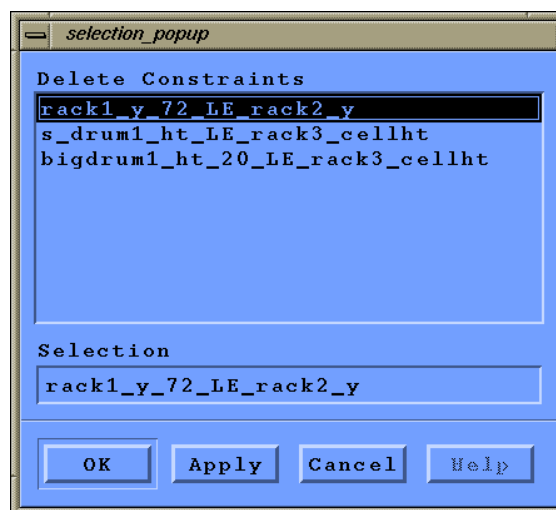

**Figure 13:** Subclass/Constraint Dialog Box
**New Specific Constraint:** This option is for creating a specific constraint (complex constraints). All such constraints are sub-classes of the super class 'Constraint'. The C++ sub-class corresponding to the constraint should be written by the user as per the template provided in the Appendix – A. All sub-classes pertaining to constraints should be added in the directory 'subclass/constraint'. When the user selects this option, the dialog box in Figure 13 appears.